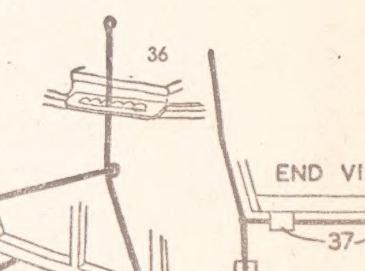

Fig. 7—Details of brake mechanism
At Fig. 7 you have the wire construction of the brake which is on the outside of the coach, blocks of wood being fitted on to the side of the framework. The lever fits into a card or thin wooden ratchet (36), glued to the side of the framework. Fig. 7 gives you the two views showing how the handle lever should work both brakes by means of the under-floor rod which passes through the two support pieces (37).